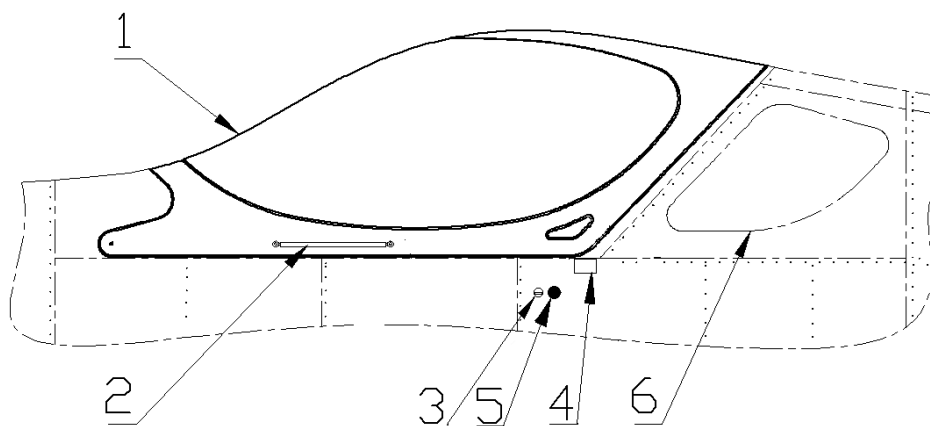

Fig. 3-2
The canopy (see Fig. 3-2) has a semidrop shape and enables access to the cockpit. The canopy consists of carbon frame on which the windscreen is attached. The canopy is suspended in two swivel hinges on front sides of the composite fixed frame. The canopy can be opened forward and is lightened by a gas strut each side which keep it in the opened position. The canopy lock is placed on the left side of fuselage below the cockpit frame. The locking levers are installed inside the fixed frame. The opening lever (in cockpit) is placed on a console between seats.
The rear fixed canopy windows (see Fig. 3-2) consists from two symmetrical windows (6) riveted and glued on the fuselage side skins.